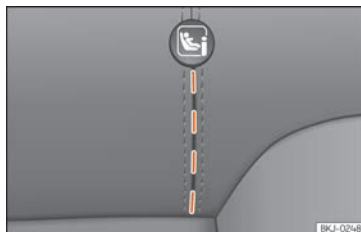

Fig. 37 Rear seat: cut-out grooves.
- Open the cut-out section behind the marked grooves to access the retaining rings » **Fig. 37**.